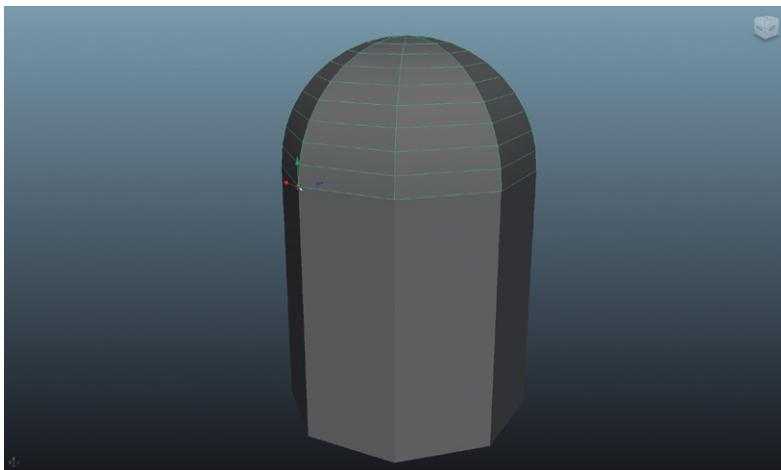

FIG 3.38 Snapping the dome into place.
Step 53: Line the dome roof up with the room. Do this by switching back out to Object Mode (right-click on the sphere and select Object Mode in the Hotbox). Swap to the Move Tool and move the manipulator (hold d) of the dome to any of the corners (remember to Snap to Vertex). Then, using the Move Tool (be sure to release d), grab the manipulator by the middle yellow square, and move the dome up to snap into place atop the cylinder (Fig. 3.38).